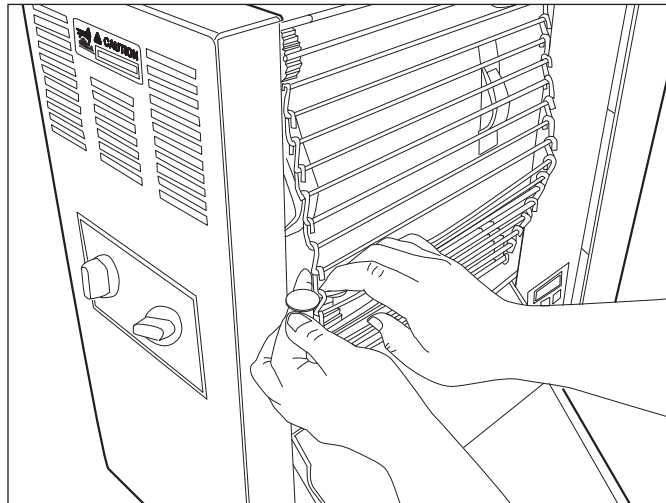

Figure 12. Measuring Conveyor Belt Chain
6. Pull the Conveyor Chain away from the edge of the toaster (Figure 12).
7. Stand a U.S. Dime on end between the frame and the chain (Figure 12).